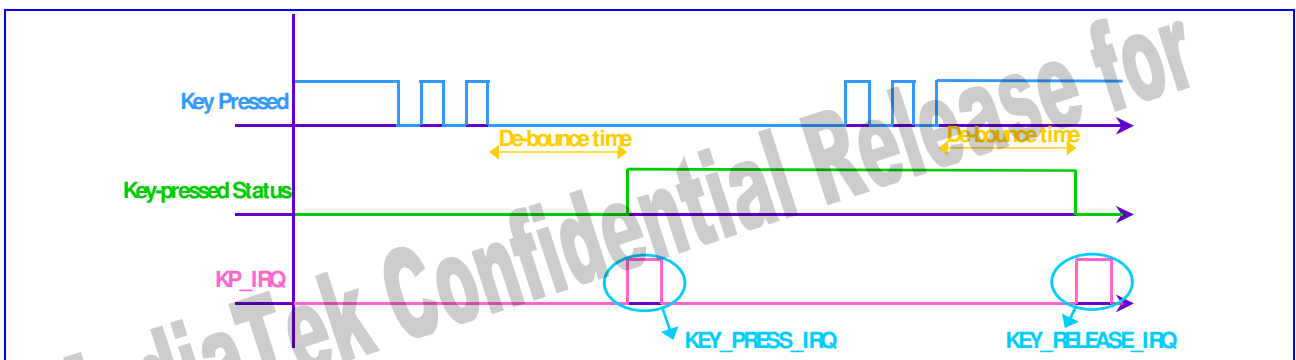
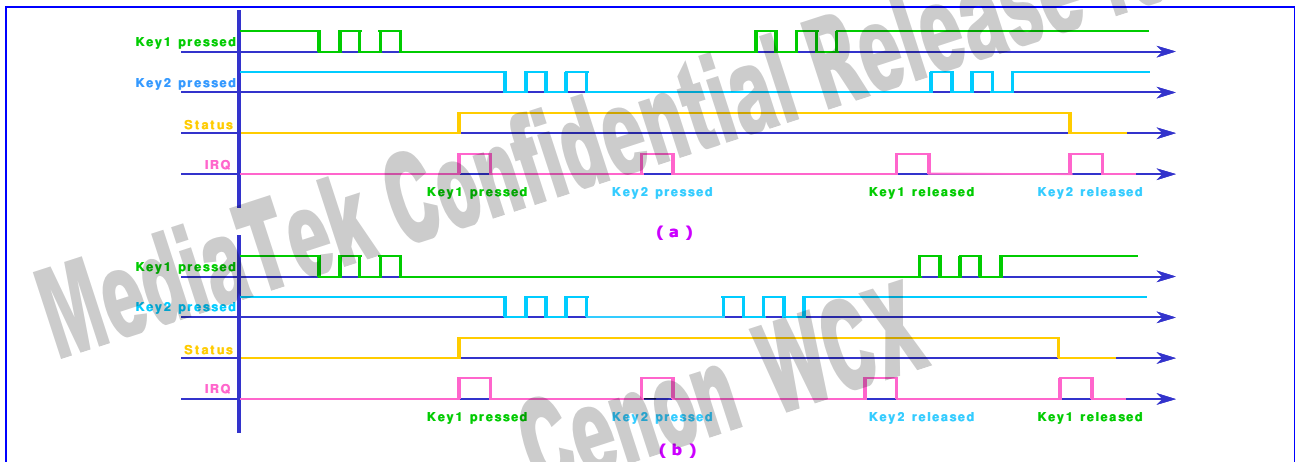

Fig. 2. One key pressed with de-bounce mechanism denoted
Fig. 3. (a) Two keys pressed, case 1 (b) Two keys pressed, case 2
This keypad can detect one or two key-pressed simultaneously with any combination. **Fig. 2** shows one key pressed condition. **Fig. 3 (a)** and **Fig. 3 (b)** illustrate two keys pressed cases. Since the key press detection depends on the HIGH or LOW level of the external keypad interface, if keys are pressed at the same time and there exists a key that is on the same column and the same row with the other keys, the pressed key cannot be correctly decoded. For example, if there are three key presses: key1 = (x1, y1), key2 = (x2, y2), and key3 = (x1, y2), then both key3 and key4 = (x2, y1) are detected, and therefore they cannot be distinguished correctly. Hence, the keypad can detect only one or two keys pressed simultaneously at any combination. More than two keys pressed simultaneously in a specific pattern retrieve the wrong information.